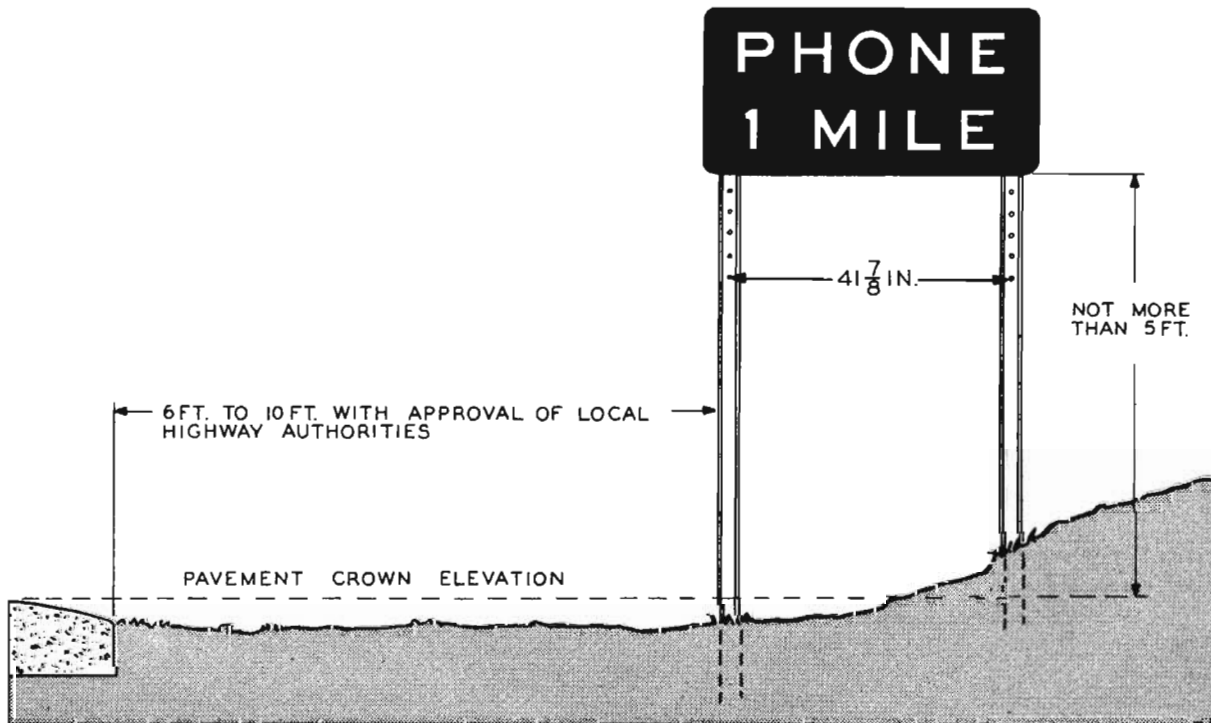

Fig. 3 — KS-16540, List 1 Installation
2.02 The KS-16540 sign is equipped with mounting screws, nuts, and washers. Two mounting posts must be ordered for each sign. These posts are available in lengths of 9 and 11 feet. A KS-16540, List 1 installation is shown in Fig. 3.